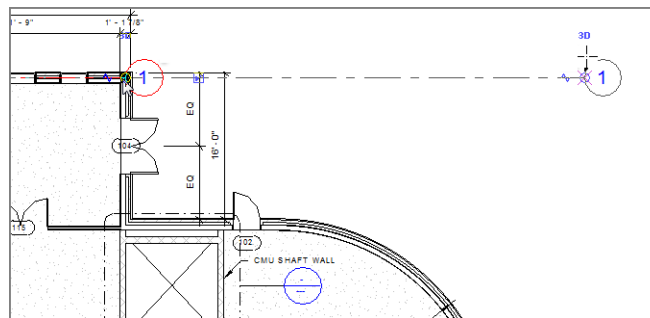

FIGURE 8.4 : Dragging the column bubble to the right
7. Pick that round blue grip, and drag the column bubble to the right about 50' (15,000mm), as shown in Figure 8.4.